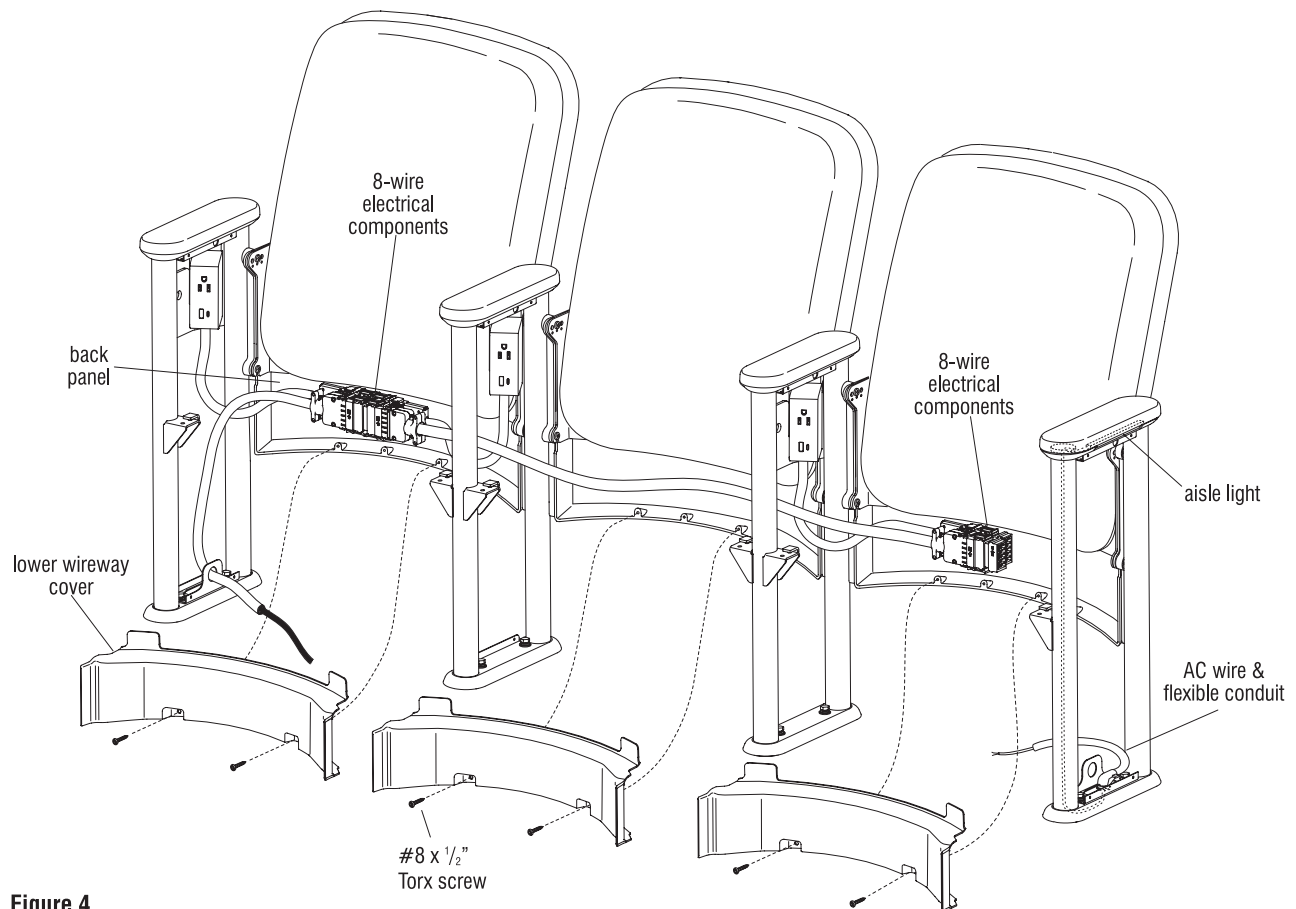

Figure 4
Note: Review space-planning layout provided to identify which uprights are to be equipped with tablet arms and/or aisle lights (Figure 4). Tablet arm uprights have a pivot mount bracket between the top of the uprights (Figure 5).
4. Refer to the space-planning layout to determine and locate the correct lower wireway covers per seat. Hold the joined electrical components up against the inside center of the seat back panel and install the appropriate size lower wireway cover by first sliding the top flange between the back board and the back panel of the installed back assembly (Figure 4).
5. Align the two holes in the lower wireway cover with the two holes in the seat back panel and secure together with two #8 x 1/2" Torx head wood screws per cover (Figure 4).